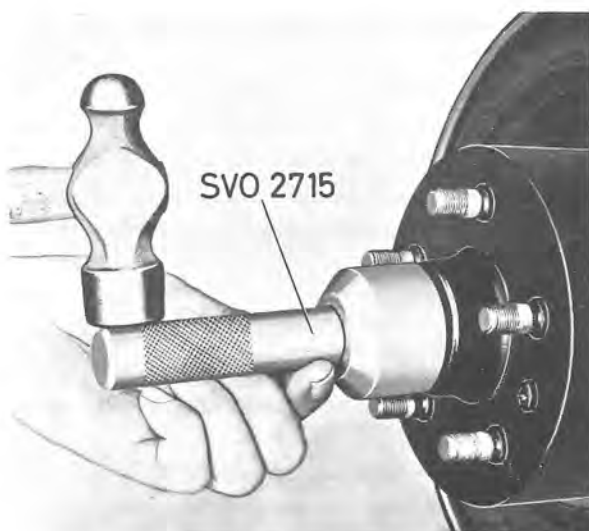
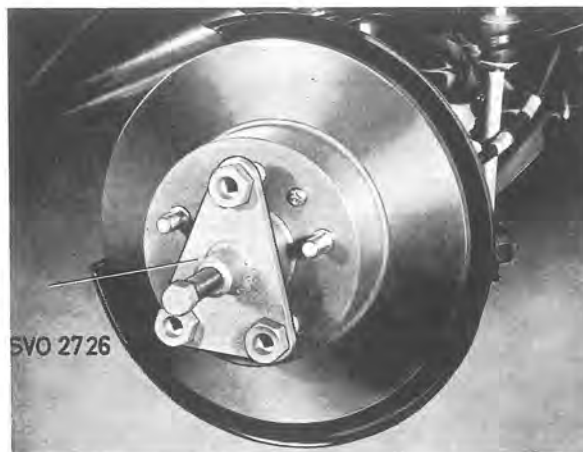

Fig. 6-17. Removing grease cap
Fig. 6-18. Removing front wheel hub
2. Remove the grease cap with tool SVO 2715, see Fig. 6-17. Remove the split pin and castle nut. Pull off the hub with puller SVO 2726, see Fig. 6-18.